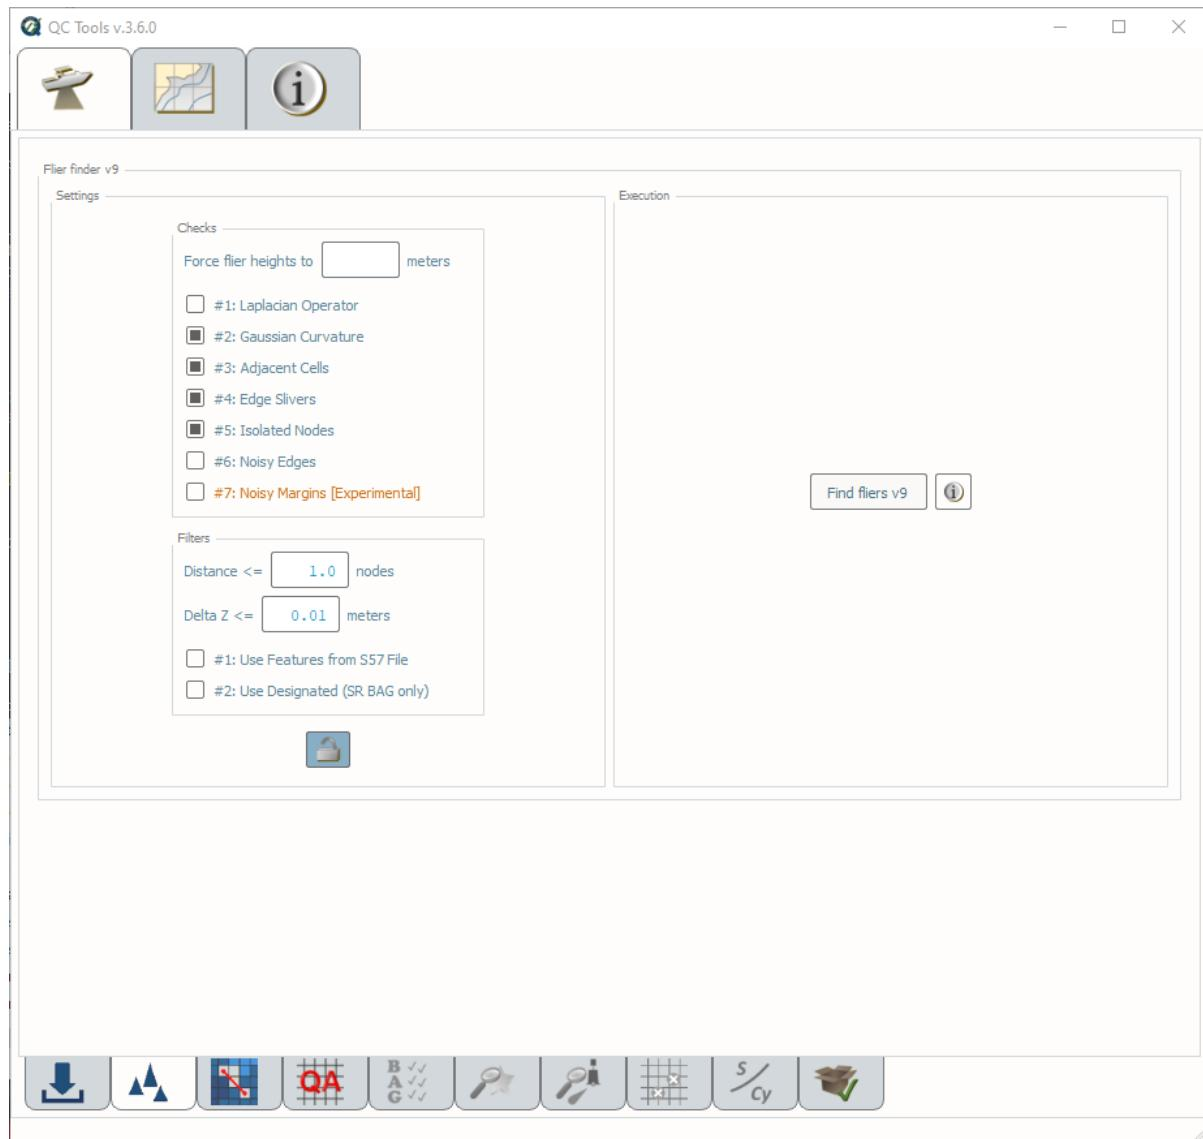

Fig. 2.5: The Flier finder fliers tab.
- Select the **Detect fliers** tab (Fig. 2.5) on the bottom of the QC Tools interface.